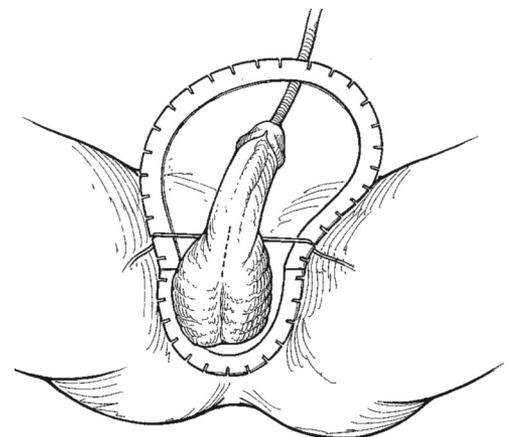

Figure 4-2. Penoscrotal: Identify Incision Site
- When using the SKW retractor, place the ring retractor on the patient with the large ring toward the patient's head (cephalad) and the smaller ring towards the patient's feet (caudal). (**Figure 4-2**).
- While holding the incision on the penis, place hooks at 1, 5, 7, 11, 3 & 9 o'clock. (**Figure 4-2**)